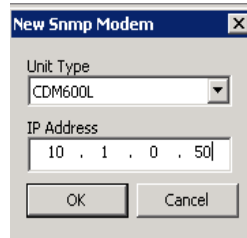

Figure 6-4 New SNMP modem dialog
4. Enter the assigned IP address in the **IP Address** dialog box shown in figure 6-4.